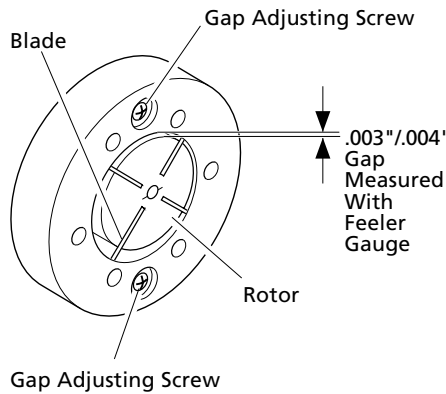

Figure 26 - Gap Adjusting Screw Locations
9. Check gap on rotor. Adjust to .003"/.004" if needed (See Figure 26).